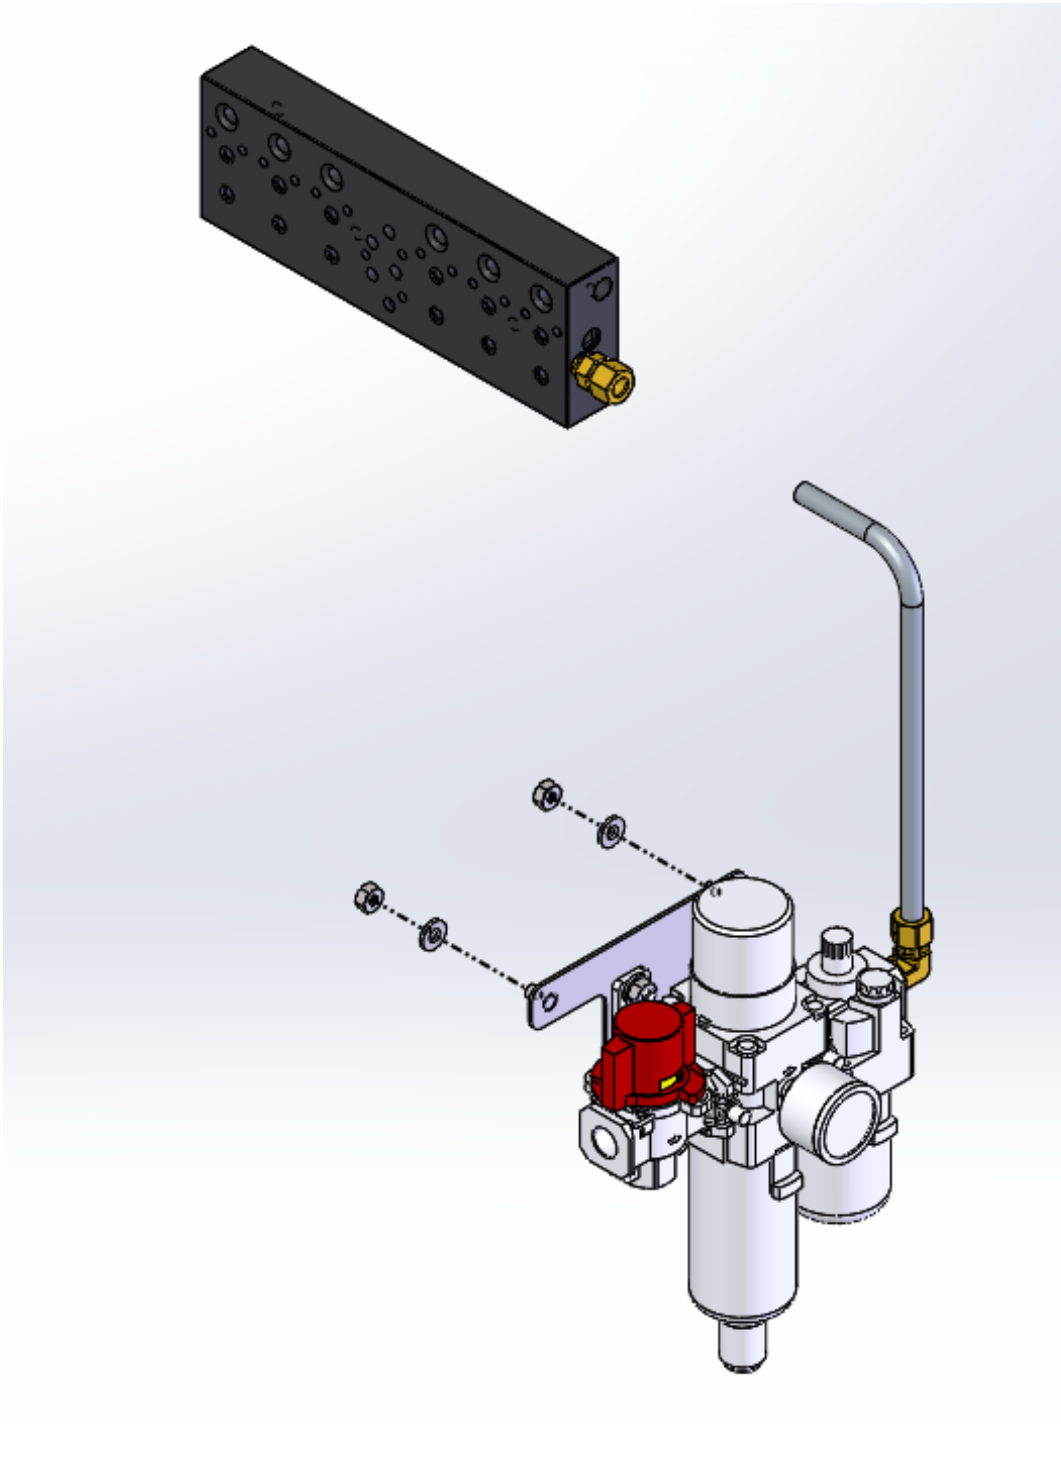

Figure 2. FRL Parts Identification for Assembly
NOTICE: THE SYSTEM UTILIZES AN AIR SHUT-OFF DEVICE CONFORMING TO THE OSHA LOCKOUT/TAGOUT STANDARD AND IS STANDARD (REF. FIG. 2. OR 3.)
The 5, 15 & 30 gallon systems are shipped assembled but require final assembly of the Air Filter/Regulator/Lubricator (FRL) unit. The FRL is boxed separately and stored in the system shipping container. Please refer to Fig. 2. for proper installation of the FRL. There is no assembly of the FRL required for the 6T, 10T and 14T Tankless systems.
The FRL (Fig. 2.) with the mounting bracket installed and a loose stainless steel tube are located in a separate package. Remove the FRL and stainless steel tube from the packaging. Remove the FRL from the mounting bracket by turning the release screws (1) counterclockwise and lifting clamp device.